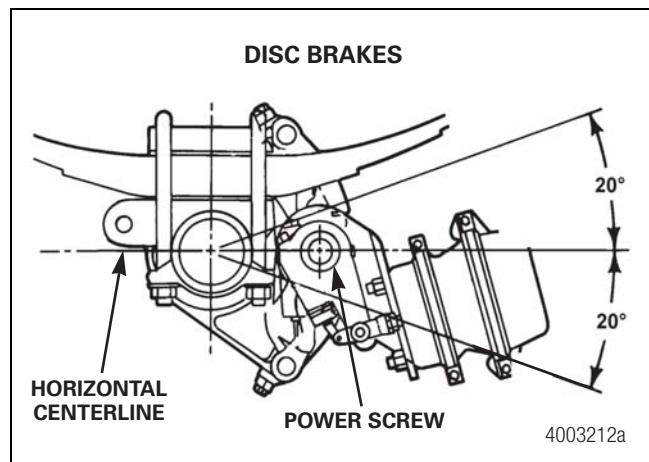

Figure 6.10
- **Disc brakes:** The centerline of the power screw must be located within 20 degrees of the axle horizontal centerline. Figure 6.10.